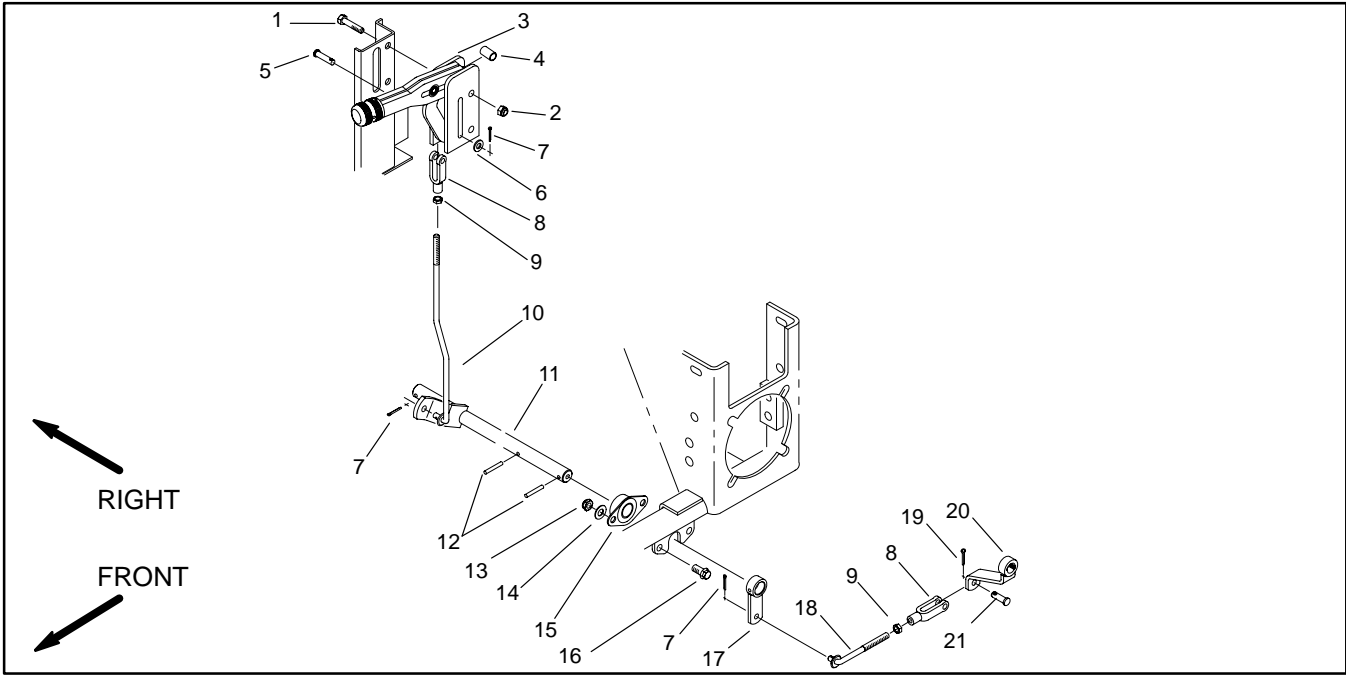

Figure 10
- Figure 10
3. Remove and replace parts as necessary to repair brake linkages (Fig. 10).